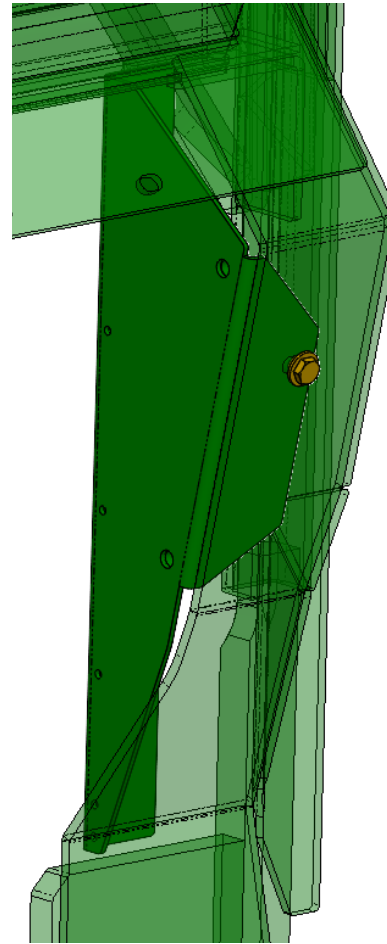

Figure 4
Refer to Figures 4—8
12. Install the outer panels (LAN84213A & B) on the new frame. Hand tighten the M10 x 20 flange bolts. (Figures 4 & 5)